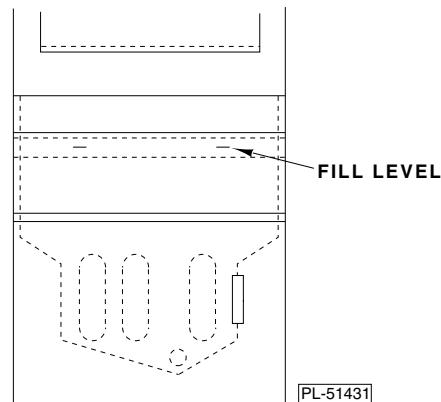

Fig. 10
1. Fill the pasta cooker tank to the water fill level line on the back wall, which is approximately 5" (127 mm) above the tank tubes (Fig. 10). The manual fill valve(s) are located on the front control panel.